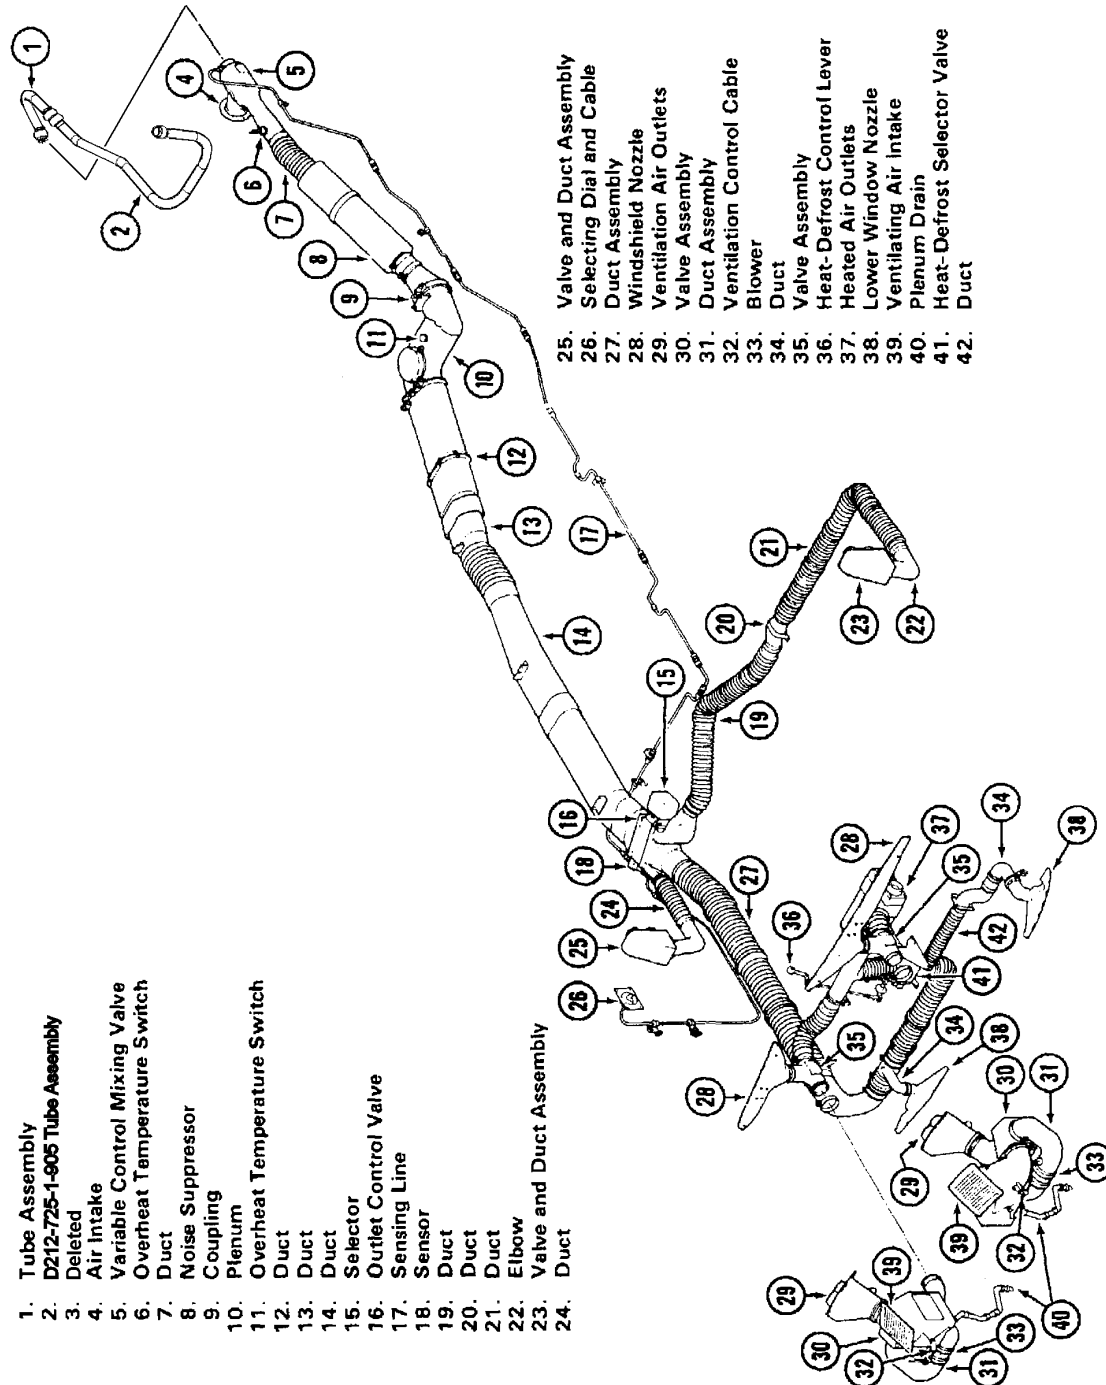
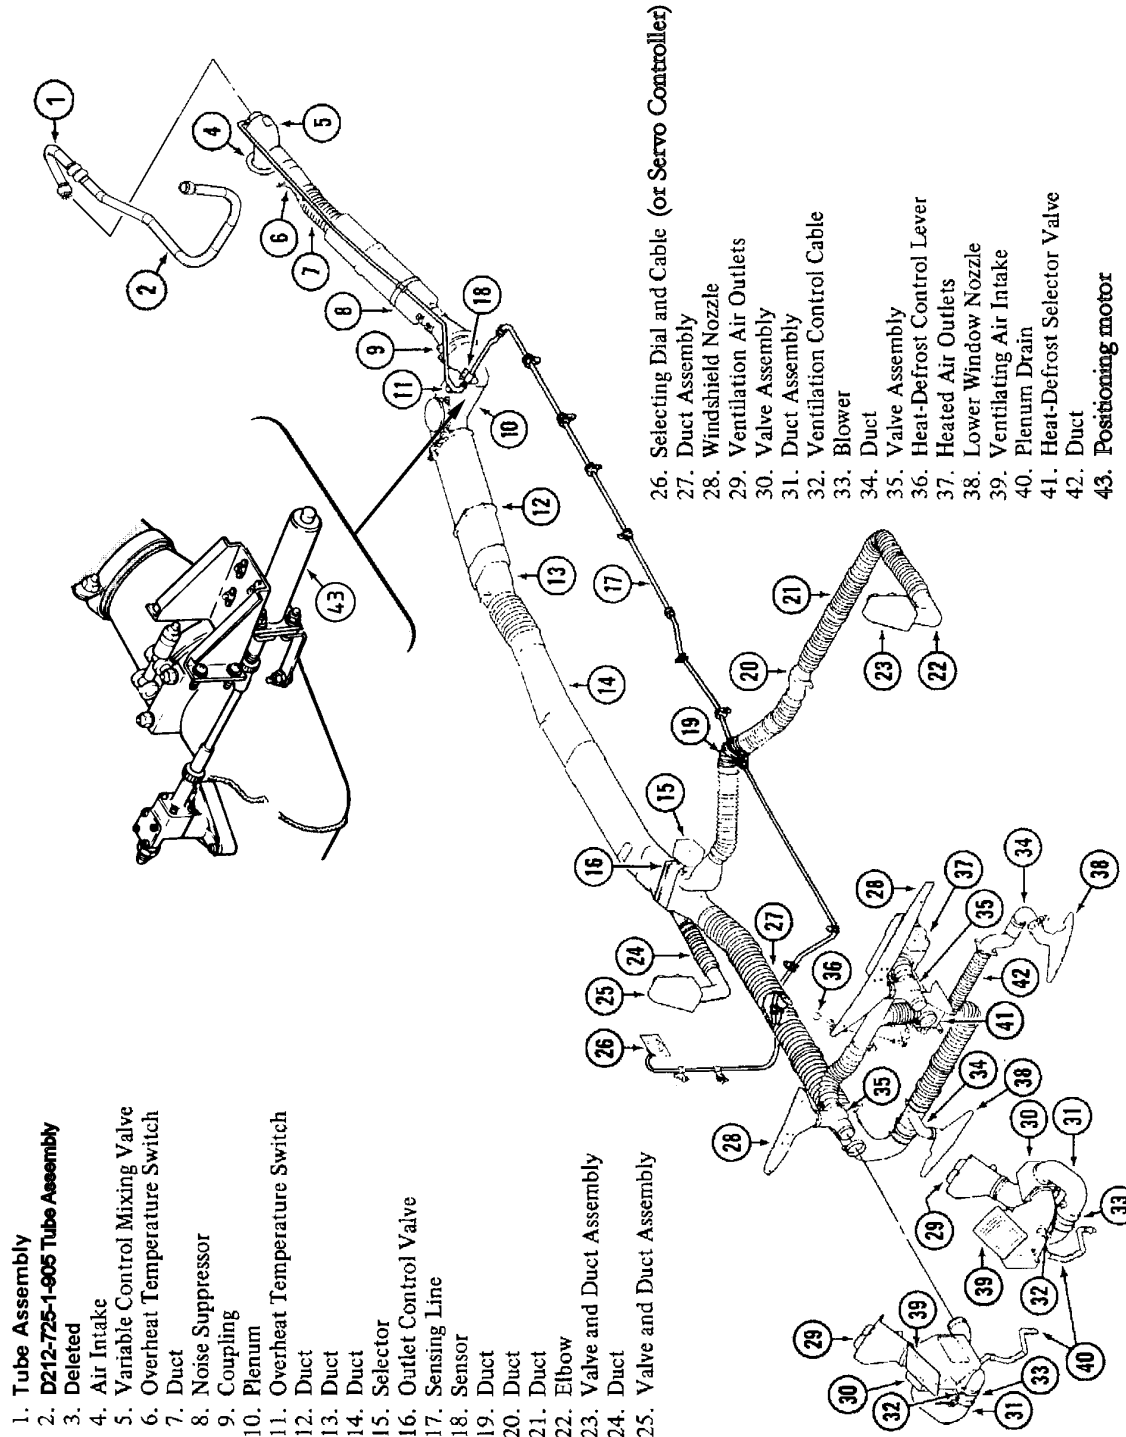
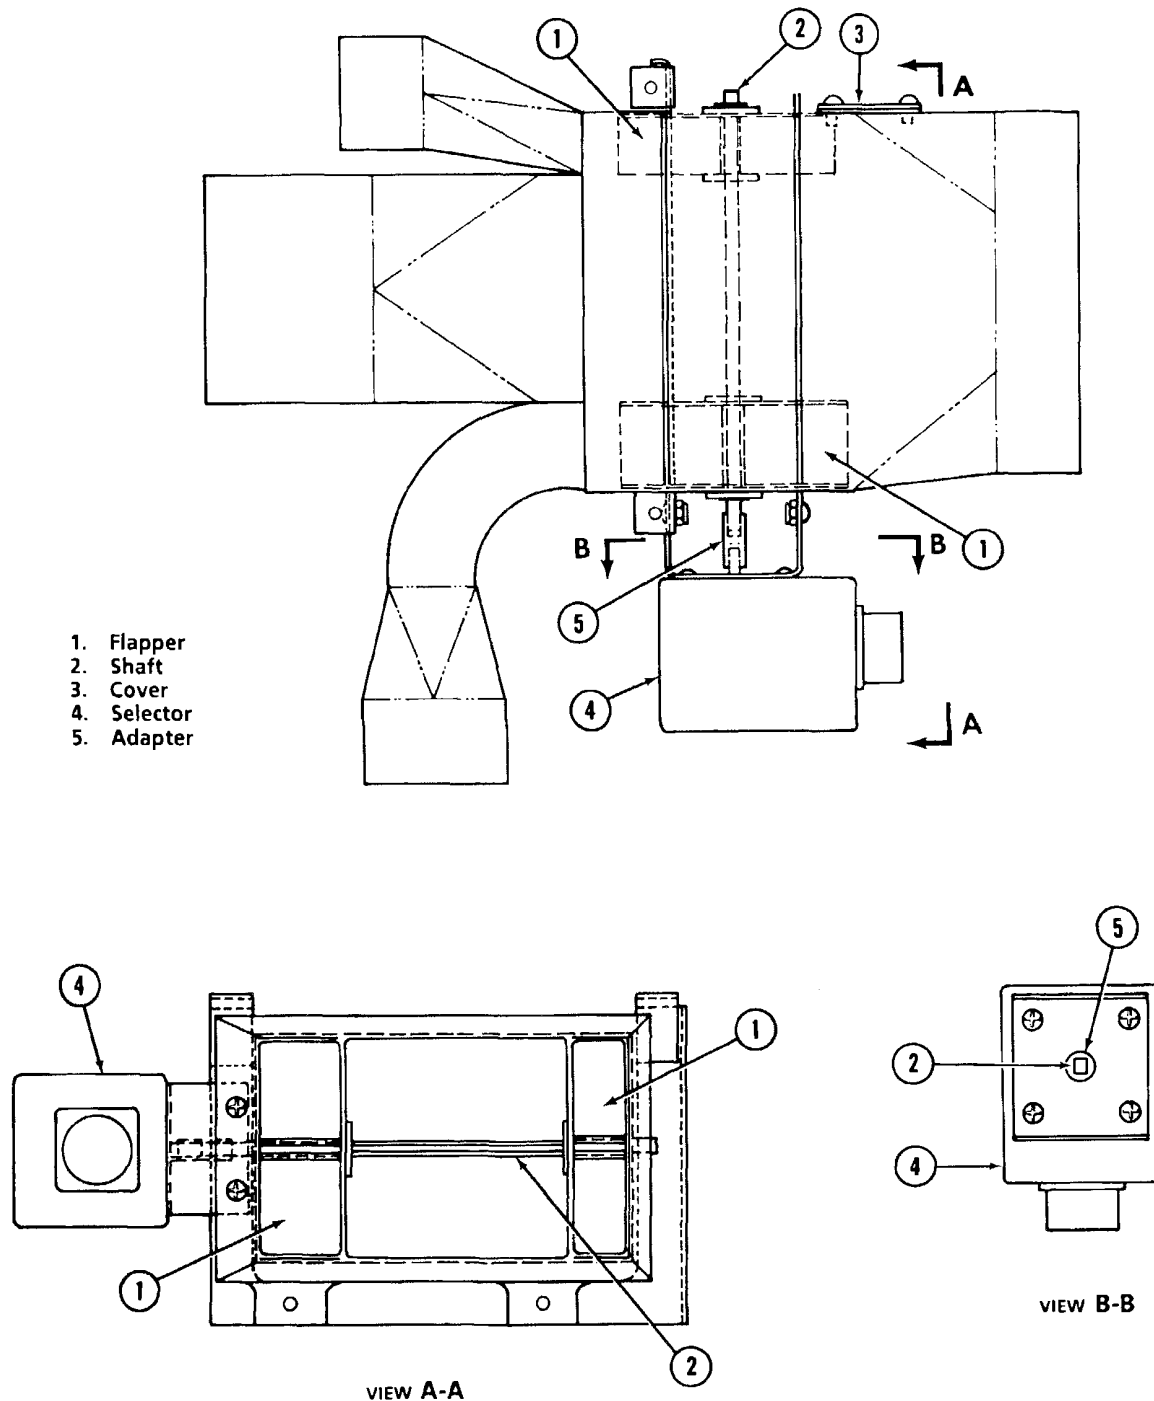

Figure 21-2. Bleed air heating system (S/N 30504 through 30553)
Figure 21-3. Bleed air heating system (S/N 30554 and sub.)
Figure 21-4. Outlet control valve
The mixing valve (5, Figure 21-2 and 21-3) is installed on the right side below the engine deck. This valve controls bleed air and ambient air flow as directed by the remote sensor (18). A bleed air nozzle inside the mixing valve acts as a jet pump through a venturi to draw in ambient air and control the mixed air flow. When heated air is not at the selected temperature, the remote sensor causes the variable control mixing valve to increase or decrease engine bleed air flow and to regulate ambient air flow as required to correct the temperature variation. A temperature limit switch (6) is located on the mixing valve to protect the structure from damage if a distribution system duct ruptures. This switch is set at 220°F (104°C). If this temperature is exceeded, the CABIN HTR circuit breaker will open.
21.5.1.2 Remove two sensing lines, on-off valve wiring and overheat temperature switch (6, Figure 21-2 or Figure 21-3) wiring.
21.5.2.1 Position valve (5, Figure 21-2 or Figure 21-3) in heater system and secure in place with clamp and large B nut. Torque nut 40 to 58 lbs. (54.23 to 78.63 Nm).
The remote sensor (18, Figure 21-2 or 21-3) is installed on top of plenum chamber. The sensor controls the mixing valve through a bleed aft port.
21.6.1.2 Disconnect sensing line (17, Figure 21-2 or Figure 21-3) and selecting dial cable (26) from sensor (18).
21.7.1.1 Remove access plate on underside of fuselage to right of center line and under the outlet control valve (16, Figure 21-2 or Figure 21-3).
This rigging procedure is to be used when replacing selector (15, Figure 21-2) or outlet control valve.
21.7.2.2 Connect selector (4, Figure 21-4) to wire harness and allow selector to rotate to open position.
21.7.2.3 Remove sensor (16, Figure 21-2), or cover (3, Figure 21-4), as applicable.
The position of flapper (1, Figure 21-4) may be checked by looking through opening under cover (3) with a inspection mirror.
21.7.2.4 Rotate flapper (1) to horizontal (open) position.
21.8.1.2 Remove selector (15, Figure 21-2 or Figure 21-3), sensor (18), and connecting ducts from valve.
21.9.3.3 At connecting ends of ducts (13 and 14, Figure 21-2) apply adhesive (C-300) to soft ends and apply three complete wraps of glass cloth (C-403), two inches wide. Do not stretch last wrap.